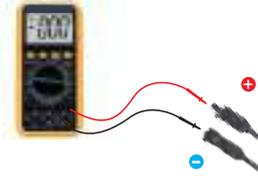
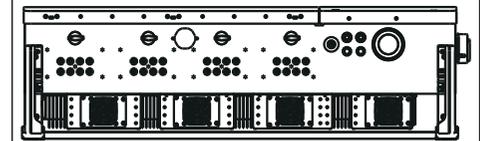

Figure 3.24 Multimeter measurement
Figure 3.25 Connect the DC Connectors to the Inverter
5. Measure PV voltage of DC input with multimeter, verify DC input cable polarity (see figure 3.24), and ensure each string voltage is in range of inverter operation. Connect DC connector with inverter until hearing a slight clicking sound indicating successful connection. (see figure 3.25)